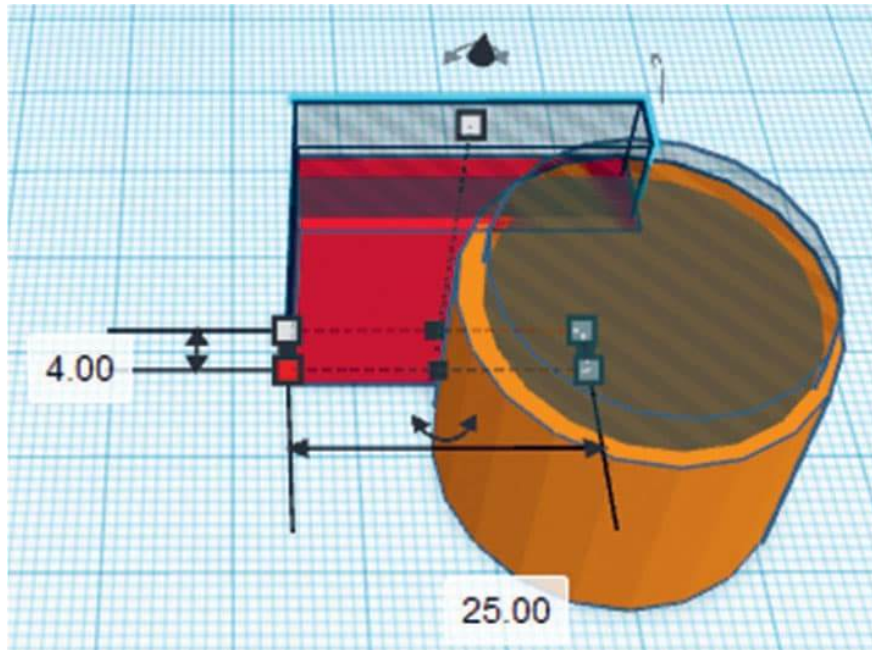
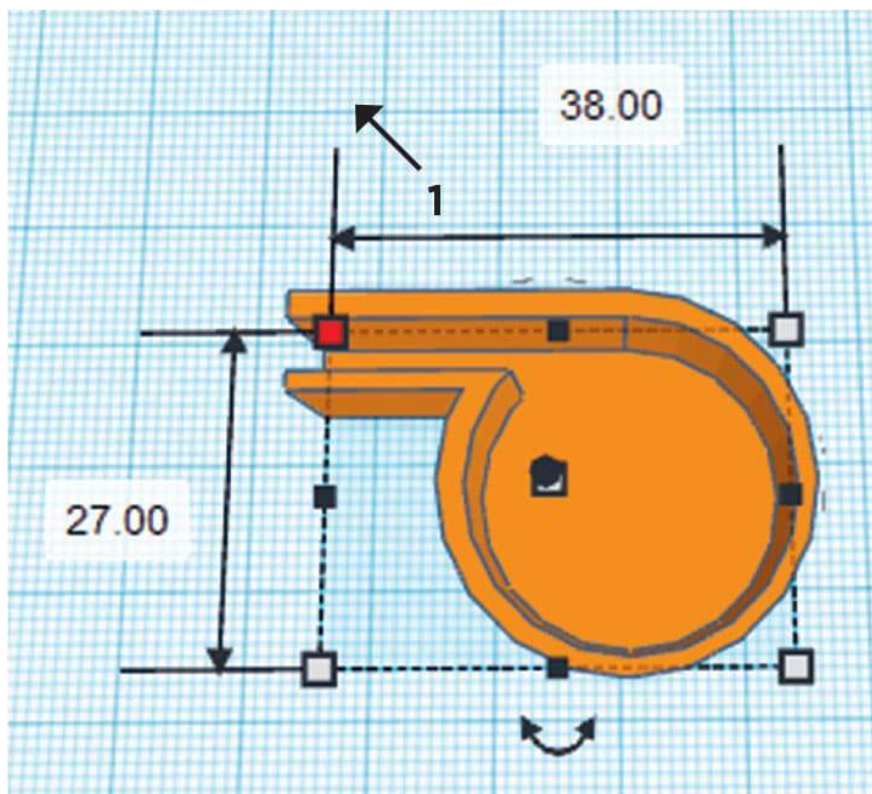

FIG. 2: Use a cylinder hole and box hole to hollow out the whistle body.
FIG. 3: Note the flush joint of the box and cylinder.
2. Now we will hollow out the whistle body. Create another cylinder with diameter 23 mm. Move it so it fits inside the cylinder from step 1 evenly on all sides (concentric). Add another box that is 4 mm wide and a little longer than the box in step 1. Line up the box and cylinder in step 2 so they flush just as we did in step 1 (fig. 2). Group the box and cylinder in step 2 and convert to a hole. Move it off the workplane by 2 mm. Then, group the box and cylinder in steps 1 and 2 to form the hollowed-out whistle body. See fig. 3 and note the flush joint of the box and cylinder marked by arrow 1.